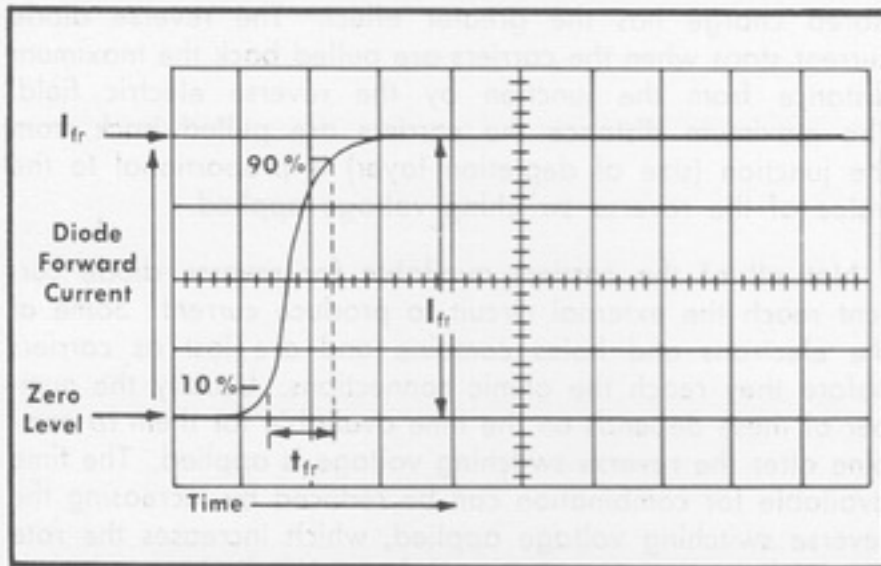

Fig. 2-29. Diode forward recovery switching display.
Diode Switching Terms (See Figs. 2-29 and 2-30)
6. Turn the pulse generator on, and set the oscilloscope triggering controls for a display similar to that shown in Fig. 2-29. Use this display to measure the forward-recovery switching characteristics of diodes when the forward switching voltage is known. Proceed to step 7 if I_{T} is known.
7. Set the pulse generator output for the known I_{T} indication on the display (see Fig. 2-29). Use this display to measure the forward-recovery switching characteristics of diodes when I_{T} is known.